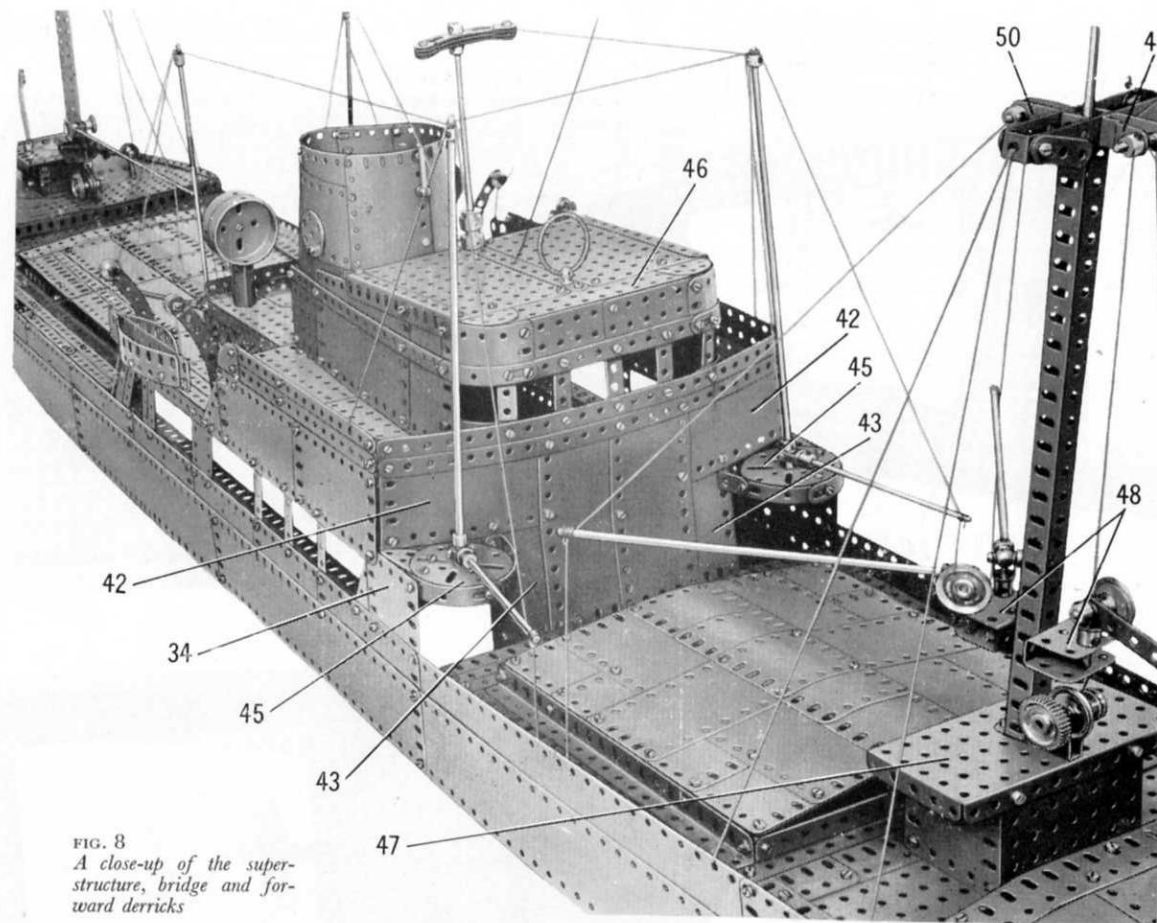

FIG. 8
The front of the superstructure is filled in by two vertical  $5\frac{1}{2}$ "  $\times$   $2\frac{1}{2}$ " Flexible Plates at the centre, and a  $4\frac{1}{2}$ "  $\times$   $2\frac{1}{2}$ " Flexible Plate (42) and a  $3\frac{1}{2}$ "  $\times$   $2\frac{1}{2}$ " Flexible Plate (43) on each side (Fig. 8). A  $5\frac{1}{2}$ " Strip (44) is bolted to the outer edge of each of the Plates (42), and a  $3\frac{1}{2}$ " Strip is fixed to the outer edge of each Plate (43). The Plates are edged at the front by two  $12\frac{1}{2}$ " Strips as seen in Fig. 8, and on the inside by a  $12\frac{1}{2}$ " Strip placed one hole below the lower edges of the Plates (42) and bolted to the Strips (44).
Flat Plates, a  $5\frac{1}{2}" \times 2\frac{1}{2}"$  Flanged Plate (46) (Fig. 8), and two Wheel Discs. The back is filled in by a  $3\frac{1}{2}" \times 2\frac{1}{2}"$  Flanged Plate bolted to each side and connected at the centre by a  $2\frac{1}{2}" \times 2\frac{1}{2}"$  Flexible Plate. A  $7\frac{1}{2}"$  Flat Girder is attached to the roof and to the back by Obtuse Angle Brackets.
Two  $3\frac{1}{2}" \times 2\frac{1}{2}"$  Flanged Plates are connected at their ends by  $2\frac{1}{2}" \times 2\frac{1}{2}"$  Flexible Plates and are bolted to a  $5\frac{1}{2}" \times 2\frac{1}{2}"$  Flanged Plate (47) (Fig. 8). This structure is attached to the deck by Angle Brackets. The foremast is formed by two  $12\frac{1}{2}"$  Angle Girders bolted to Angle Brackets fixed to the Flanged Plate (47). The top ends of the Girders are bolted to the lugs of a large Fork Piece, which is placed with its boss downward, and supports a  $6\frac{1}{2}"$  Rod. To each Angle Girder is fixed a Channel Bearing (48). Two  $3\frac{1}{2}"$  Strips and four  $1\frac{1}{2}"$  Strips connected by Double Brackets are fixed to the top of the Angle Girders, and a Stepped Bent Strip (49) and a Single Bent Strip (50) are attached to them (Fig. 8).